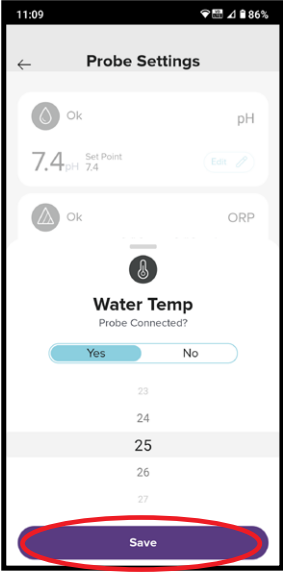

Figure 10.3
- Once you're happy with the change, press "Save" (refer Figure 10.3).